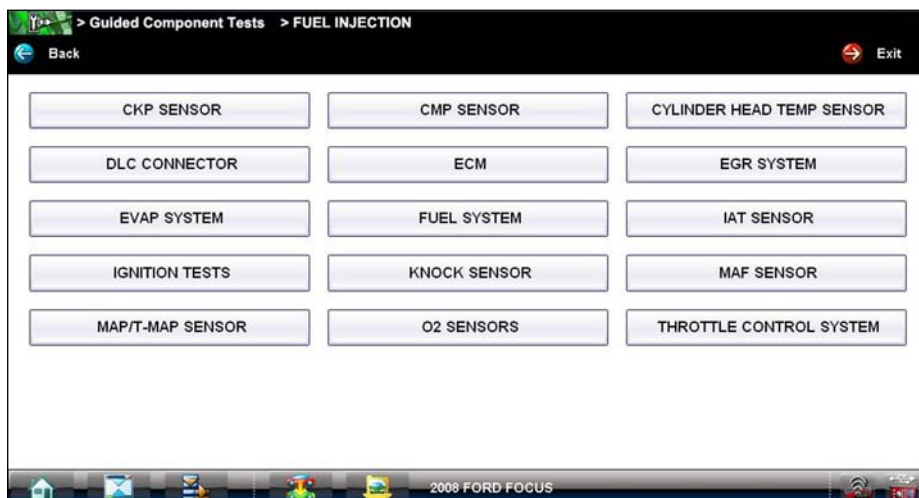

Figure 6-5 Sample available component tests list
8. Select **FUEL INJECTION** and a fuel injection component test menu displays (Figure 6-5).